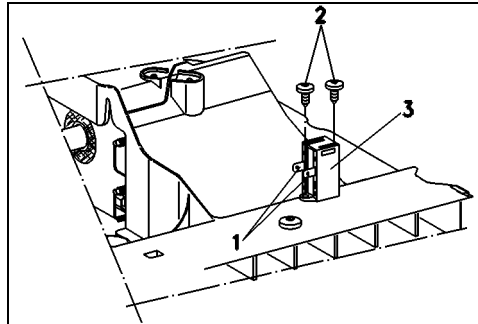

Figure 012-8: Release Element Removal
3. Disconnect the release element connections (Figure 012-8, Item 1).
4. Remove the screws securing the release element (Figure 012-8, Item 2).
5. Remove the release element (Figure 012-8, Item 3).